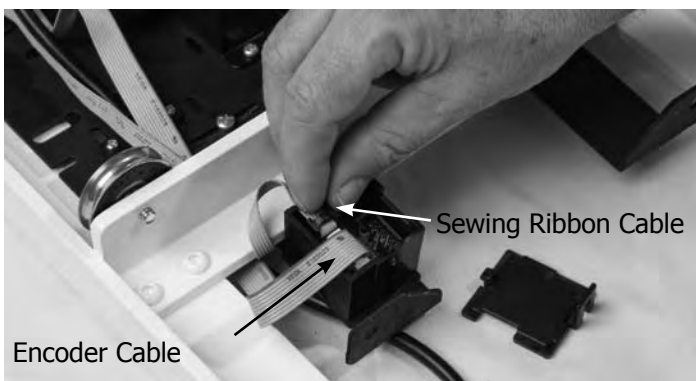

Fig. 1-F
**1-7.** Next, on the opposite end of the carriage install your two (2) Length Adaptors, using two (2) M4 x 14mm Screws, as shown in Fig. 1-G. Do not replace the lid of the cable box in the Power Strip Bracket yet, leave it off for now.